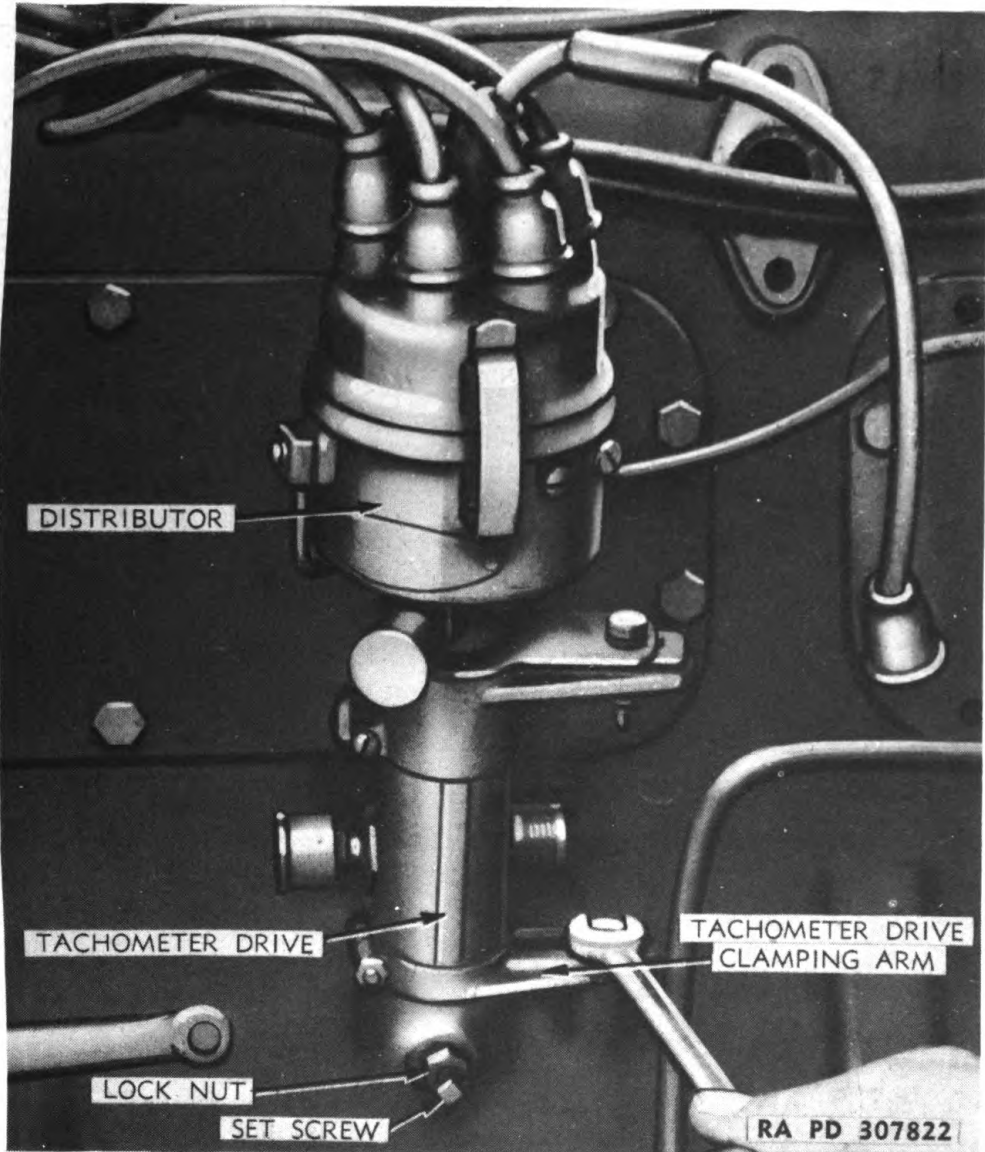

Figure 18 — Removing Distributor and Tachometer Drive
p. Remove Distributor and Tachometer Drive Assemblies (fig. 18). Remove cap screws from tachometer drive clamping arm, loosen lock nut and loosen set screw holding tachometer drive in cylinder block. Pull ends of wires from spark plugs, then lift distributor and tachometer drive from cylinder block.